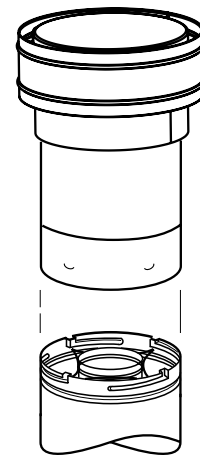

Figure 28
K. Install the vertical termination - The final step involves installation of the SV4.5CGV-1 Vertical Termination. Extend the vent sections to the height as shown in the "Vertical vent termination section" on **page 5**. The SV4.5CGV-1 Vertical Termination (**Figure 28**) installs in the exact same fashion as any other **Secure Vent** section. Align the termination over the end of the previously installed section, adjusting the radial alignment until the four locking dimples of the termination are aligned with the inlets of the four incline channels of the last vent section. Push the termination down until it fully engages, then twist the termination clockwise running the dimples down and along the incline channels until they seat at the end of the channels.